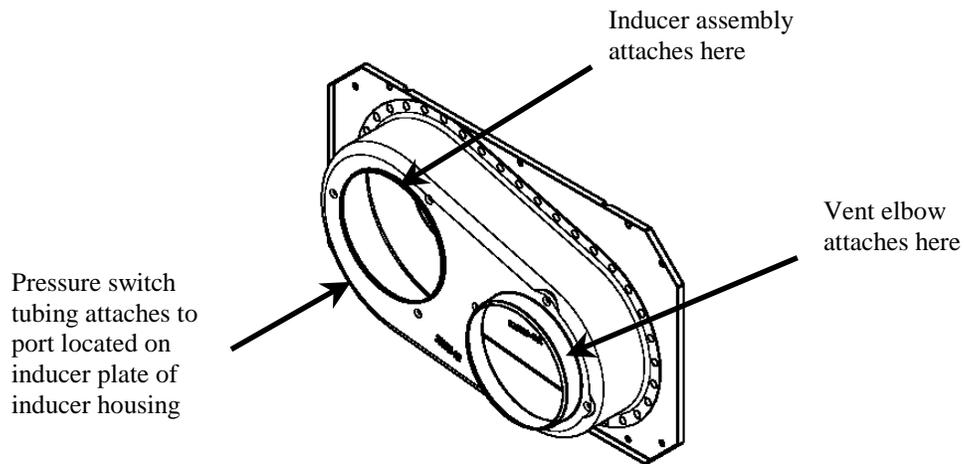

Fig. 2 – Front view of Inducer Housing
5. Place new inducer motor gasket provided in kit around flange on inducer housing (See Fig. 2).